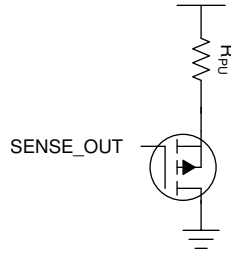

图 8-10. Additional Components for the SO and PG Pins to be Pulled Up to Another Rail
Because the sense out (SO) and power-good (PG) pins are pulled up internally to the output rail, they cannot be pulled up to any voltage or wire AND'd like a typical open-drain PG output can be. If these signals must be pulled up to another logic level then an external circuit can be implemented using a PMOS transistor and a pullup resistor. Implementing the circuit shown in 图 8-10 允许输出被拉到任何逻辑轨。此实现也允许输出像传统的电源好引脚一样被 AND 在一起。